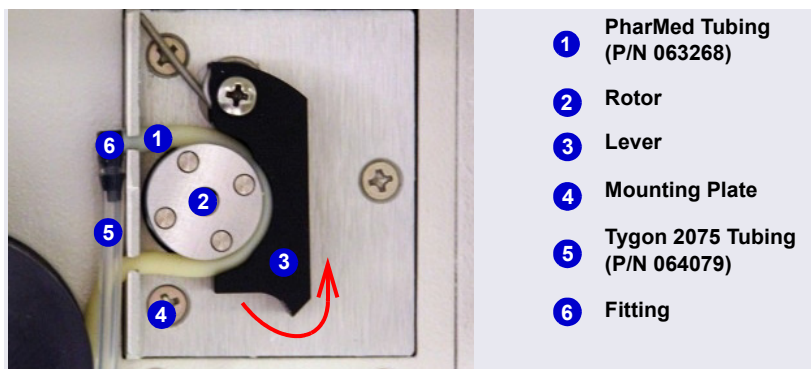

Figure 10-10. Peristaltic Pump for Seal Wash System
4. Remove the old tubing from the peristaltic pump (see Figure 10-10) as follows: